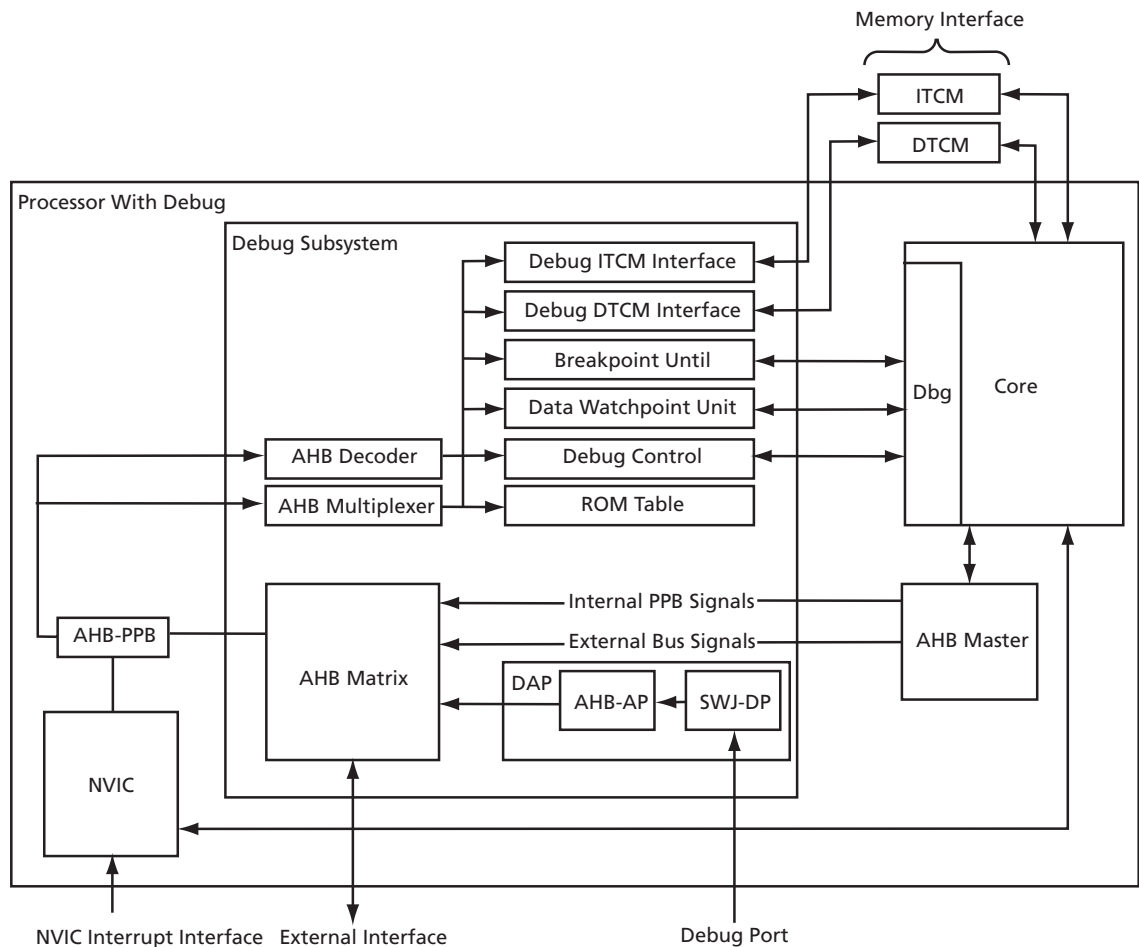

Figure 1-1 · Cortex-M1 Block Diagram with Debug
The main blocks in Cortex-M1 are shown in Figure 1-1 and include the processor core, the Nested Vectored Interrupt Controller (NVIC), the AHB interface, and the debug unit. The processor core supports 13 general purpose 32-bit registers, including a Link Register (LR), a Program Counter (PC), a Program Status Register (xPSR), and two banked Stack Pointers (SP). In addition to the AHB-Lite interface, there is a dedicated memory interface for access to the Instruction and Data Tightly Coupled Memories (ITCM and DTCM). The ITCM and DTCM are individually configurable from 0 bytes to 1,024 kbytes, providing ample space for optimizing memory transactions.